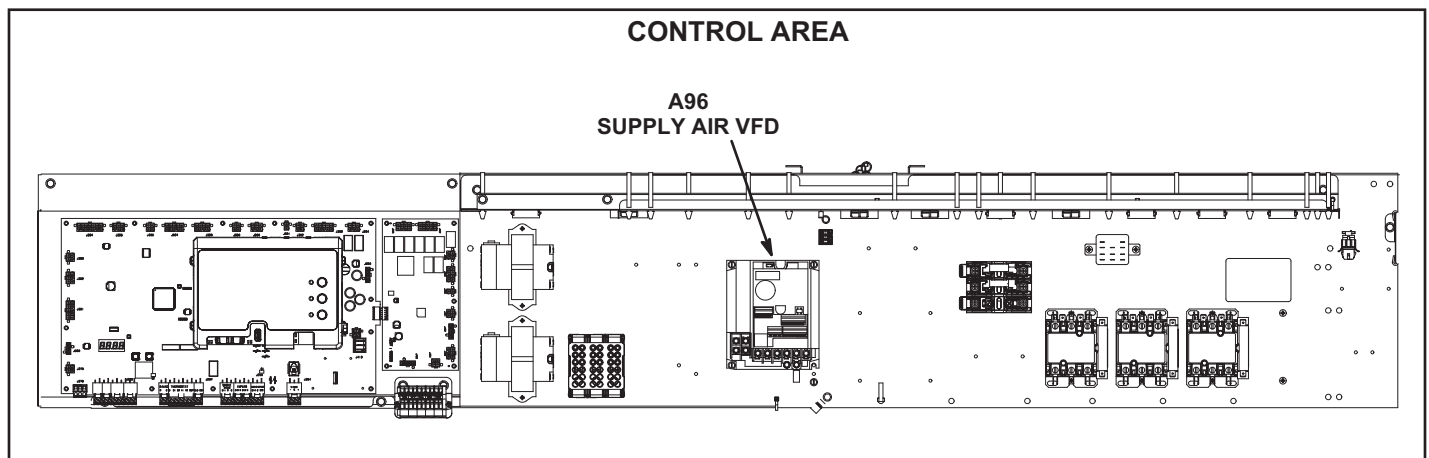

FIGURE 50
Units contain a supply air blower equipped with a variable frequency drive A96 (VFD) which varies supply air CFM. The supply air VFD (A96) is located in the control area. See FIGURE 50.
- 4 - Locate the A55 Unit Controller. Refer to FIGURE 50.